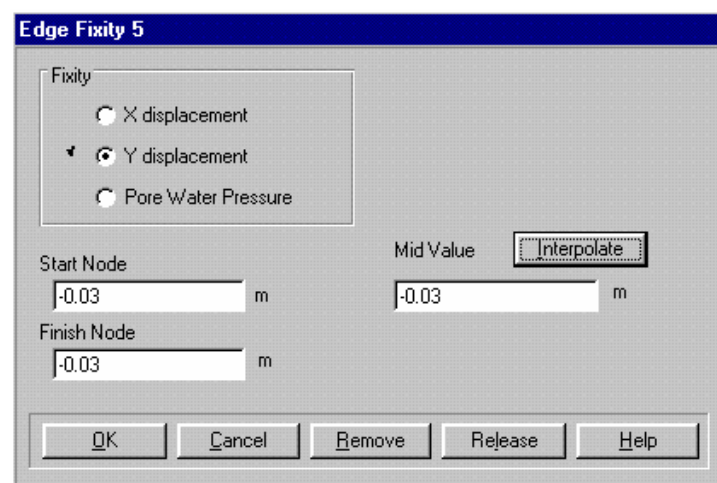

Figure 3-14: Defining a Displacement
Step 15 The Edge Fixity dialogue box should now look like Figure 3-14. Click on OK to exit once you have finished.